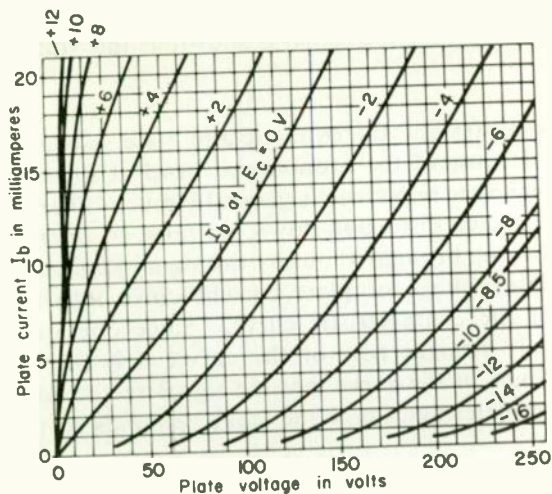
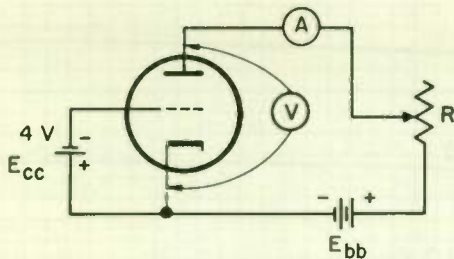
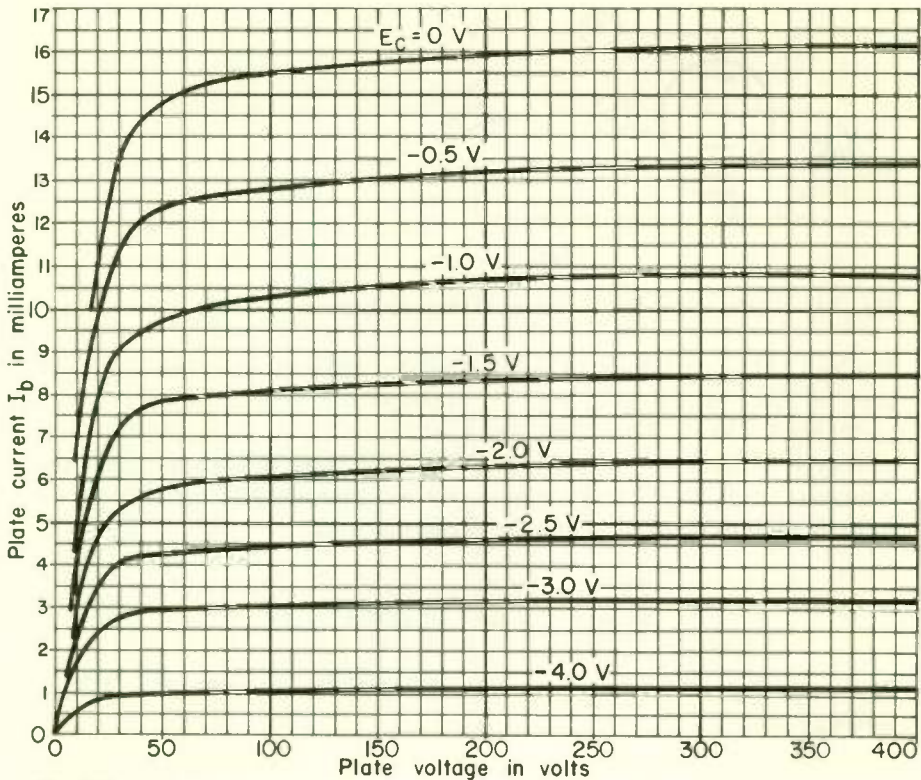

Fig. 13 Characteristic curves for one triode tube type.
Fig. 14 Laboratory determination of plate resistance.
Fig. 15
STATIC AND DYNAMIC PLATE RESISTANCE . . . If the triode whose curves are shown in Fig. 13 is operating with -4 V grid bias, the curves show that, when the plate voltage is 150 V, the plate current is 8 mA.
Referring again to Fig. 13 and still assuming a bias of -4 V, suppose that in operation, the plate voltage swings between a minimum instantaneous value of 150 V and a maximum instantaneous value of 200 V. What is the resistance associated with this section of the characteristic curve for -4 -V bias? The plate voltage is going from 150 to 200 V (a change of 50 V) causes the plate current to go from 8 to 15 mA (a change of 7 mA). We find the resistance of this section of the curve by dividing the change in voltage associated with this section by the change in current associated with this section.
Figure 14 shows a lab setup for finding the dynamic plate resistance instead of using the curves of Fig. 13. Resistance R is varied until the voltmeter reads 150 V. Then ammeter A will read 8 mA, assuming the same tube type as used for the curves of Fig. 13. Next R is varied until the voltmeter reads 200 V, and the ammeter will then read 15 mA. Now we have the figures we need to find the plate resistance.
Notice in Fig. 14 that the grid voltage is held at a constant -4 V in finding r_p .
1. Refer to Fig. 13. What value of grid bias would you need to limit the plate current of the triode tube to 10 mA when the plate voltage is 165 V?
2. Refer to Fig. 13. If the triode tube plate current is to be 15 mA, what value of plate voltage is required when -3 V is applied to the grid?
3. Refer to Fig. 15. If the pentode tube is operating with 180 V on the plate and -1.75 V on the grid, what is the value of plate current?
4. Calculate the plate resistance for the pentode tube whose characteristic curves are shown in Fig. 15. Assume that the instantaneous plate voltage varies from 140 to 300 V while the grid is kept at a constant -1 V .
5. Refer to Fig. 13. The value of the triode tube r_p is relatively (a) (low) (high) compared with that of the pentode of Fig. 15, and the triode characteristic curves (b) (are nearly horizontal) (slope considerably).
6. Refer to Fig. 15. The value of the pentode tube r_p is relatively (a) *low* (*high*) compared with that of the triode of Fig. 13 because the pentode characteristic curves (b) *are nearly horizontal* (*slope considerably*).
To find the amplification factor for the tube represented by the curves of Fig. 13 we will assume the current to be a constant 10 mA and we will vary the grid voltage from -2 to -4 V. Reading off the chart, the plate voltage for -2 grid volts and 10-mA plate current is 125 V. The plate voltage for -4 grid volts and 10 mA plate current is 165 V.
To find the transconductance for the tube type represented in Fig. 13, let us assume the plate voltage is held constant at 150 V and that the grid voltage is changed from -2 to -4 V. The chart shows that for 150 V on the plate and -2 grid volts, the plate current is 13.5 mA. For 150 plate volts and -4 grid volts, the plate current is 8 mA.
1. Refer to Fig. 13. Calculate μ when I_b is a constant 20 mA and the value of E_c is varied from -1 to -3 V.
2. Refer to Fig. 13. Calculate μ when I_b is a constant 5 mA and E_c is varied from -4 to -6 V.
5. Refer to Fig. 13. Calculate the value of r_p when E_c is a constant -2 V and E_b varies between 110 and 150 V. Compare your answer with the answer of Problem 3.
6. Refer to Fig. 13. Calculate the value of g_m when E_b is a constant 180 V and E_c varies between -6 and -8 V. Compare your answer with the answer of Problem 4.
7. Refer to Fig. 13. If the value of E_c is a constant -2 V and the plate voltage is varied from 90 to 190 V, the plate current will vary _____ milliamperes.
8. Refer to Fig. 15. If E_c is a constant -4 V and the plate voltage of the pentode tube is varied from 90 to 190 V, the plate current will vary _____ milliamperes.